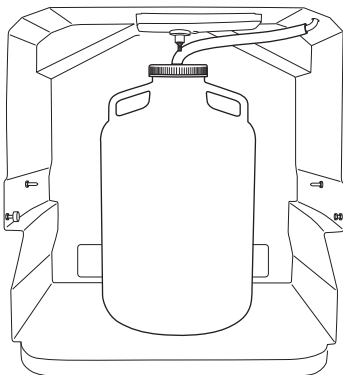

Figure 2-2 One 20 liter PE bottle configuration with discharge tube through the bottle cap
6. Feed the discharge tube into the hole (see Figure 2-2).